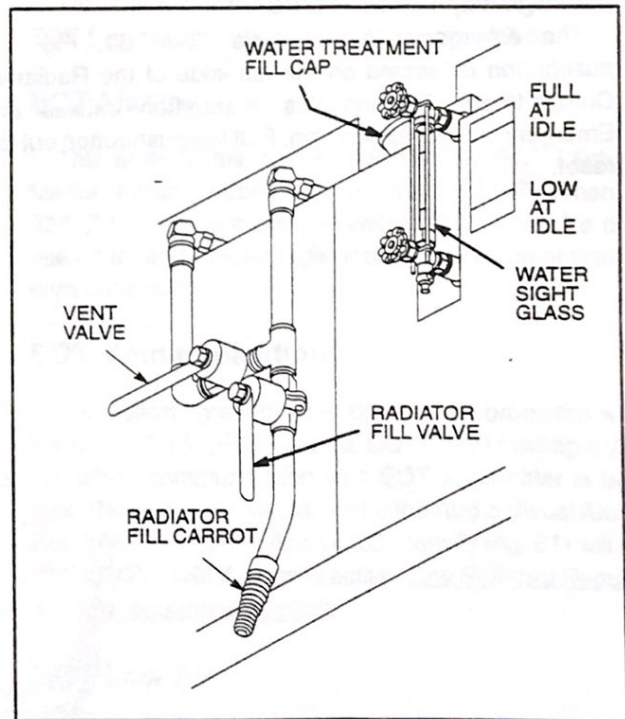

FIG. 48. ENGINE COOLING WATER SIGHT GLASS AND FILL. E-41064A.
A water level sight glass mounted on the back side of the cooling water storage tank (Fig. 48) indicates the level of the cooling water. Markings near the sight glass indicate the proper level for various conditions of the system. Check cooling water level after engine has been idling for ten (10) minutes or more. Add water if level is below "LOW AT IDLE" mark. Reduce water by draining some of it if level is above "FULL AT IDLE" mark.